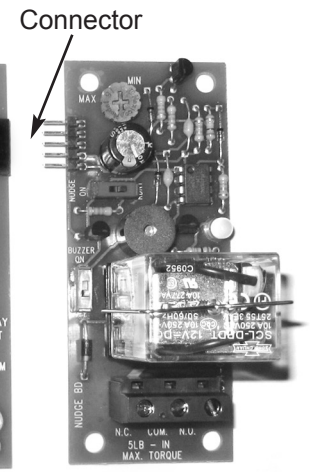

FIGURE 4b
Plug optional Nudge/Buzzer PC assembly into the Power Supply/Controller and mount with additional four (4) 6/32 screws (see Figure 4b).